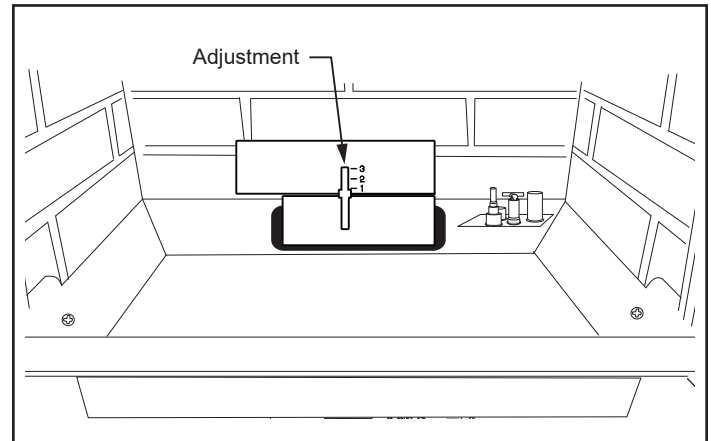

Figure 2.9 - Loosen screw to adjust restrictor plate.
Adjustments can be made by loosening the adjustment screw to allow the restrictor plate to slide up or down, Figure 2.9. A guide for usage is shown in Figure 2.10.
- Adjust plate (Figure 2.9) to location according to guidelines in Figure 2.10.